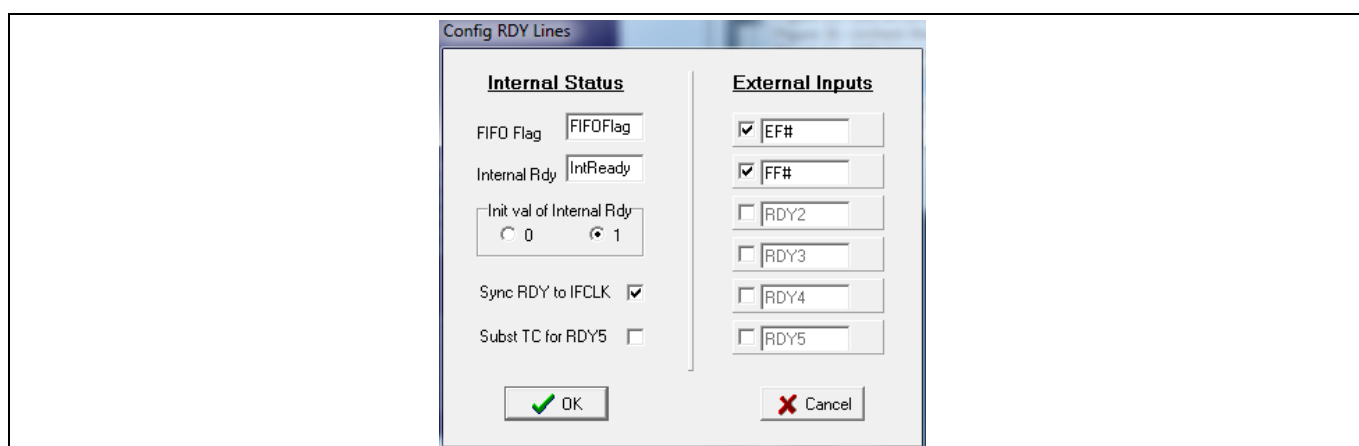

Figure 33 RDY Pin Configuration
6. Right-click the **RDY** label and configure the RDY signals, as shown in Figure 33.